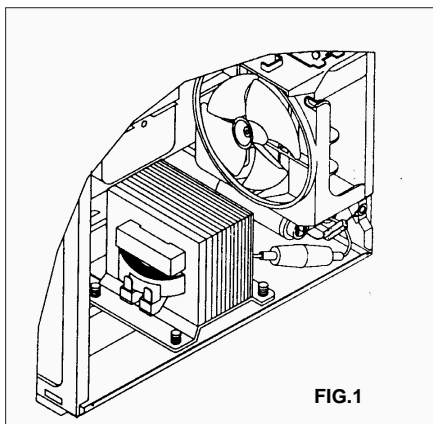

FIG.1
2. Warning about the electric charge in the high voltage capacitor. (Refer to Fig. 1)